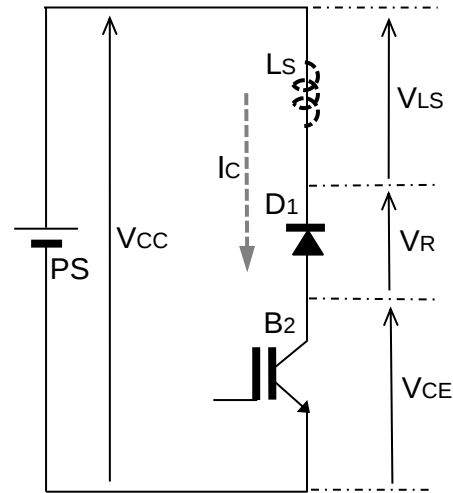

Fig.6. Simplified circuit for transient period
Focusing on the transient period following t_2 , I_C flows through D₁ and B₂ as shown in Fig.6. During this state, L_S is calculated by the following equation (1).